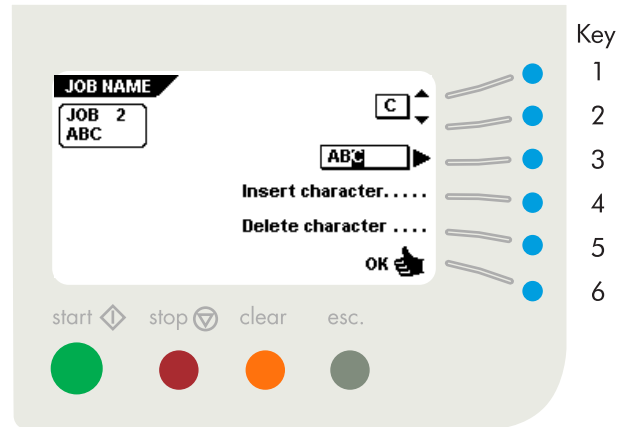

Fig. 49
After pressing key 5 in the "job settings" menu the display shows the screen as shown in fig. 49. The following choices are available:
- change the selected character (key 1 or 2).
- select the character position (key 3).
- insert the selected character (key 4).
- delete the selected character (key 5).
- confirm the settings by pressing "OK" (key 6) which will get you back to the "job settings" menu.